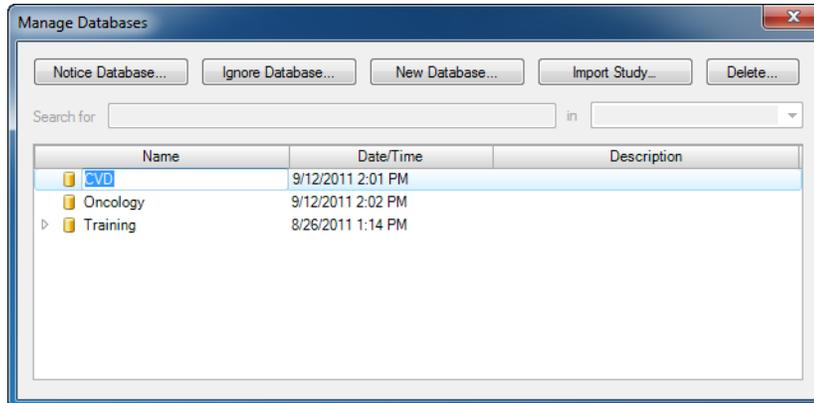

Figure 5-10. Changing the name of a database
- To edit a database name or description, select **Database | Manage** from the main menu. Click the desired database, then click on either the name or description to edit the corresponding text field (see Figure 5-10).